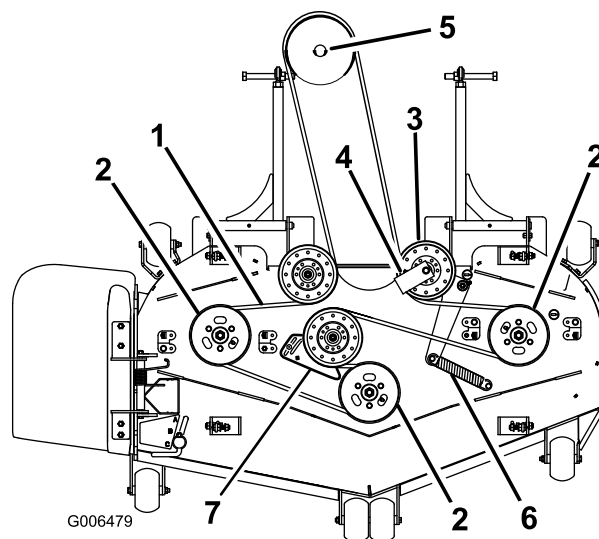
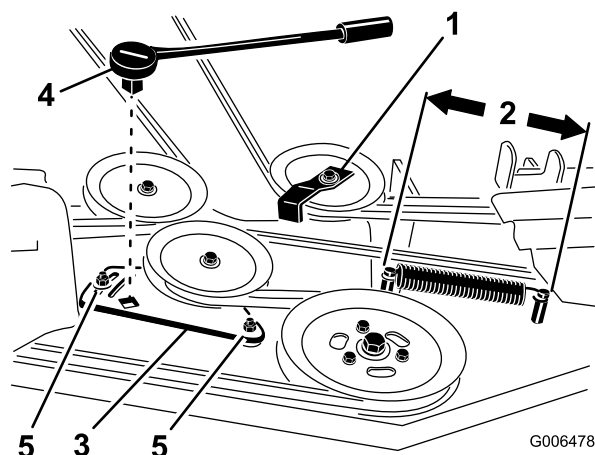

Figure 75
Figure 77
4. For 72-inch mowers, loosen the idler plate bolts holding the idler plate (Figure 77).
6. Remove the belt guide on the spring-loaded idler pulley shown in Figure 75 and Figure 77.
8. Install the new belt around the mower pulleys and the gearbox pulley under the engine (Figure 75).
9. Install the belt guide on the spring-loaded idler at a 45 degree angle as shown in Figure 75 and Figure 77. Torque the bolt to 37 to 45 N·m (27 to 33 ft-lb).
10. Install the idler spring to the 2 posts (Figure 75 and Figure 77).
4. Measure the spring length (Figure 77). If the spring length is between 25.4 to 26 cm (10 to 10-1/4 inches), from post to post, no adjustment is needed.
5. Loosen the bolts holding the idler plate (Figure 77).
6. Insert a ratchet or breaker bar into the square hole in the idler plate to adjust the tension (Figure 77).
7. Rotate the ratchet or breaker bar to move the idler plate until the idler spring is between 25.4 to 26.0 cm (10 to 10-1/4 inches) from post to post as shown in Figure 77.
8. While holding the belt tension and spring length, tighten the idler plate bolts that secure the idler plate (Figure 77).